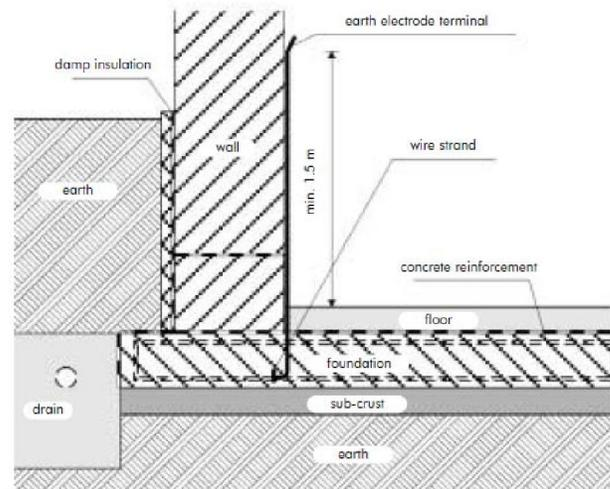

Figure 2 – Illustration of the placement of the foundation earth electrode in a foundation with concrete reinforcement
- (2) in a foundation with concrete reinforcement (Figure 2).
In a foundation with concrete reinforcement the earth electrode is placed over the lowest layer of wire-mesh reinforcement (Figure 2), thus ensuring adequate corrosion protection for the electrode. The electrode should be fastened to the reinforcement mesh with wire strands at intervals of not more than 2 m over the electrode length. It is not necessary to make a sound electrical connection at each point because the main electrical connection is via the concrete. If the foundation is constructed as separate panels connected to each other with expansion joints, the earth electrodes of each panel should be galvanically connected to each other. These connections must be flexible and must be located so that they remain accessible for measurement and maintenance purposes. The foundation earth resistance can be calculated using the following simplified equation: